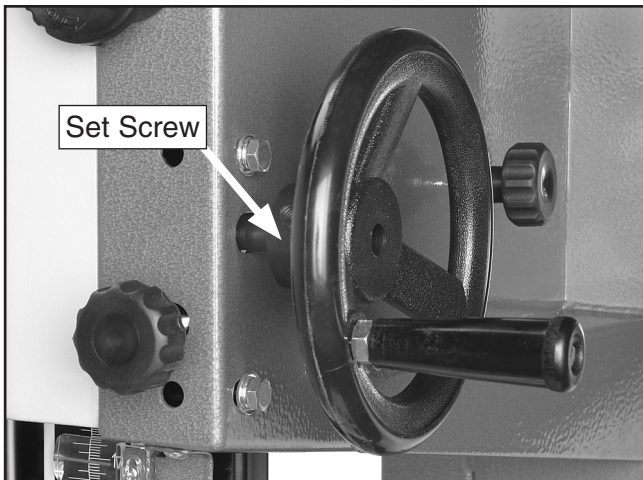

Figure 14. 6" Handwheel installed.
- Install the 6" handwheel, as shown in **Figure 14**, by placing it on the shaft and tightening the set screw in the handwheel.